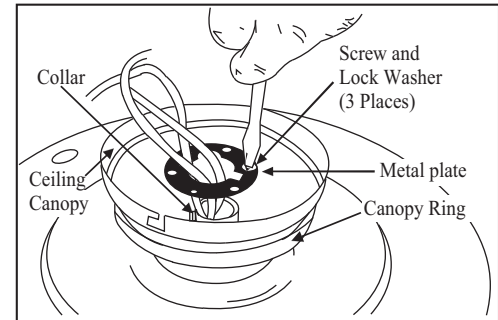

Figure 13
- Route the wires exiting the top of the fan motor through the canopy ring (make sure the slot openings are on top). then proceed to place the ceiling canopy and metal plate over the collar at the top of the motor. (Figure 13)
- Align the mounting holes with the holes in the motor and fasten using the screws and lock washers removed in step 4 (Fig. 13).